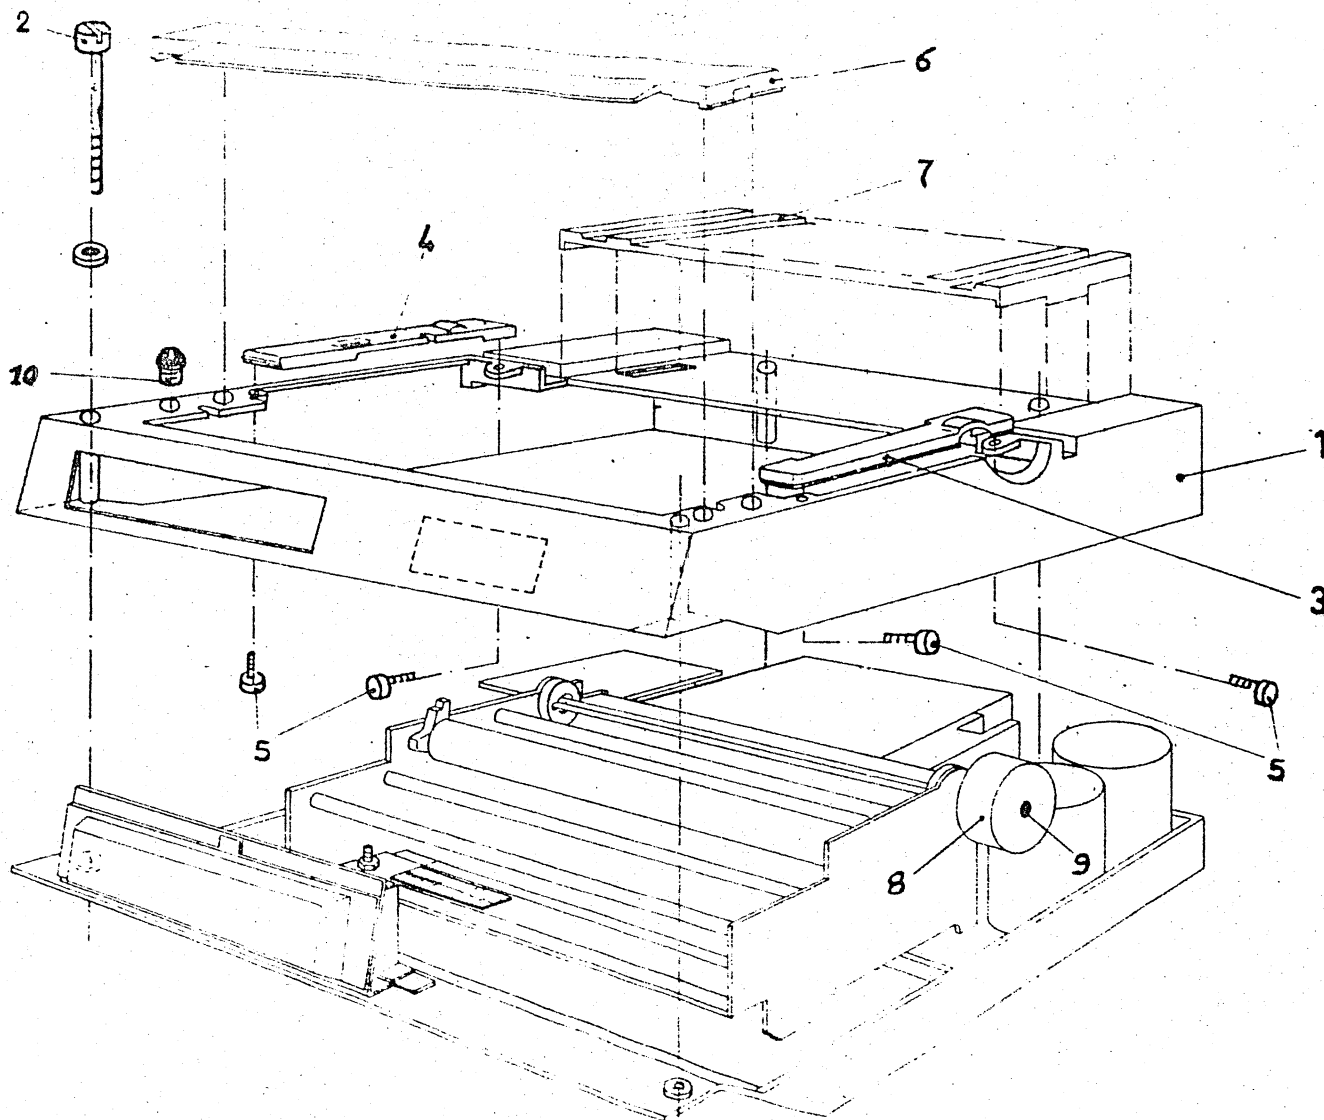

FIG. 8.17
The LCSP covers are made-up by modular elements in plastic material, as shown in fig. 8.17.
- . Remove the front cover (item 6 - fig. 8.17).
- . Remove the top cover (item 1 - fig. 8.17).